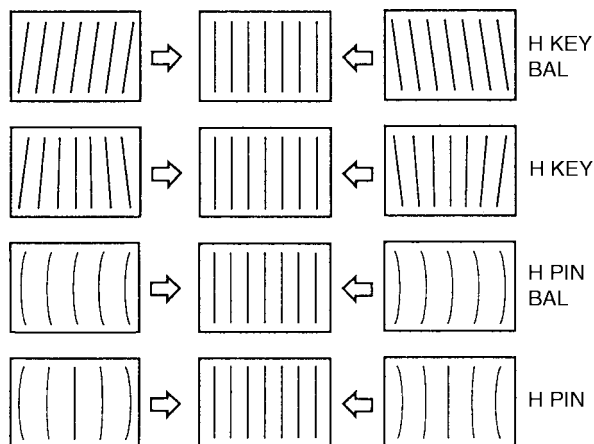

Fig. 1-10
10. Adjust the H KEY BAL, H KEY, H PIN BAL, and H PIN data so that the trapezoid distortion and PIN distortion at the side disappear as shown in Fig. 1-10.